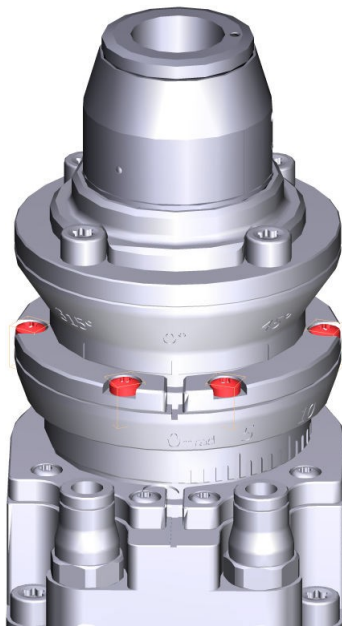
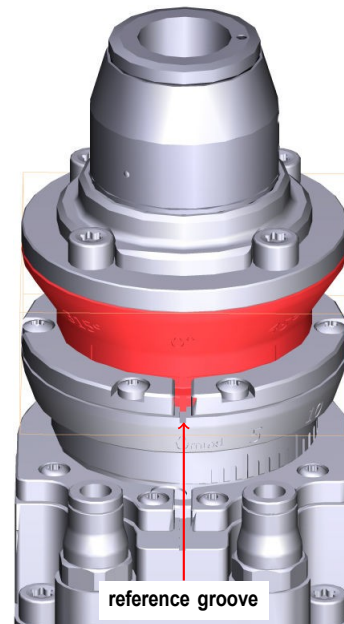

Figure 4.19.: Six fixing screws for rotation
Figure 4.20.: Adjusting ring for rotation
4. Untighten the 6 screws (Torx, size 10) that are marked red in figure 4.19 on page 32 in a way that the adjusting ring from figure 4.20 on page 32 can be rotated.